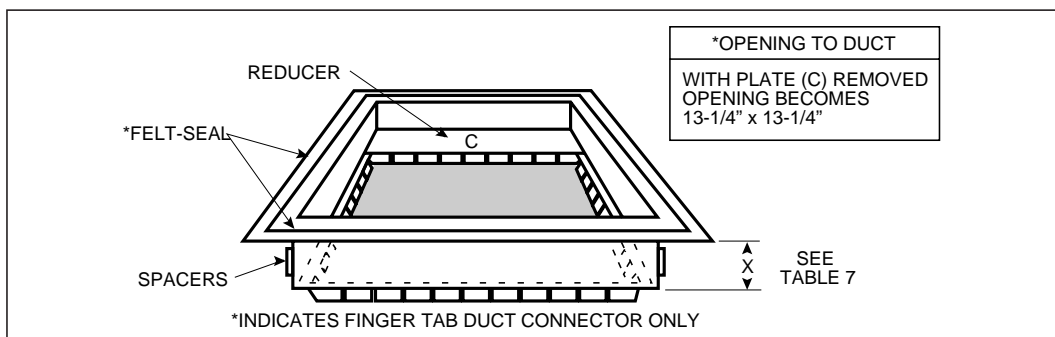

Figure 11.
- b. Select appropriate model from Table 7 which matches X-dimension of the floor cavity. To maximize air delivery, remove reducer "C" (see Figure 11) to obtain the largest open area that will fit the duct/floor construction. Screw down duct connector opening to duct without reducer is 13" x 13". With reducer it is 13" x 10-1/8".